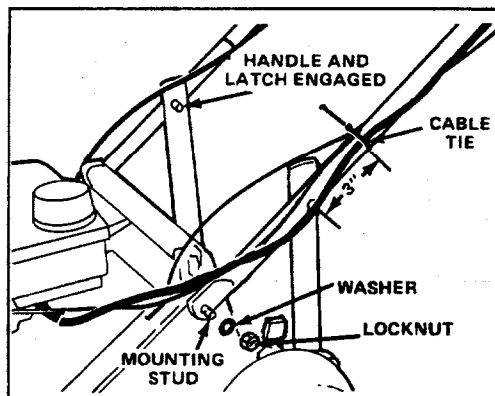

Figure 1
1. Spread handle ends and slide onto mower housing mounting studs (Fig. 1).
2. Secure each side of handle to mounting studs with a washer and locknut (Fig. 1).
3. Spring handle latches inward. Move handle up or down to snap handle studs into middle hole on both latches (Fig. 1).
5. Secure control cables to each side of handle approximately 3" above handle stud (Fig. 1).